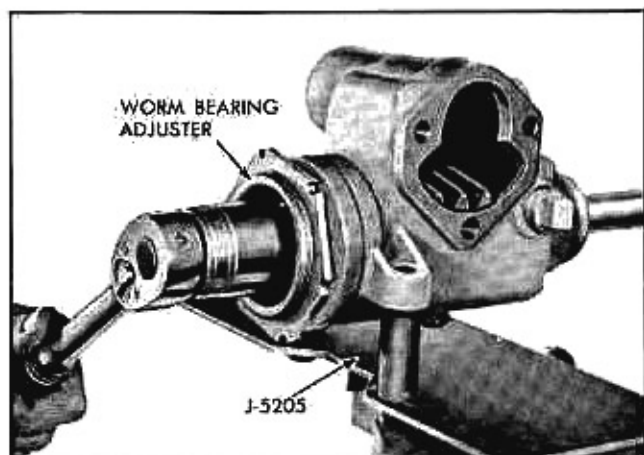

Fig. 9-35 Adjusting Worm Bearing Preload
b. If torque does not meet above specification, loosen worm bearing adjuster lock nut (Fig. 9-35) and turn adjuster to bring torque within $\frac{3}{8}$ to $\frac{7}{8}$ lb. in. limits.